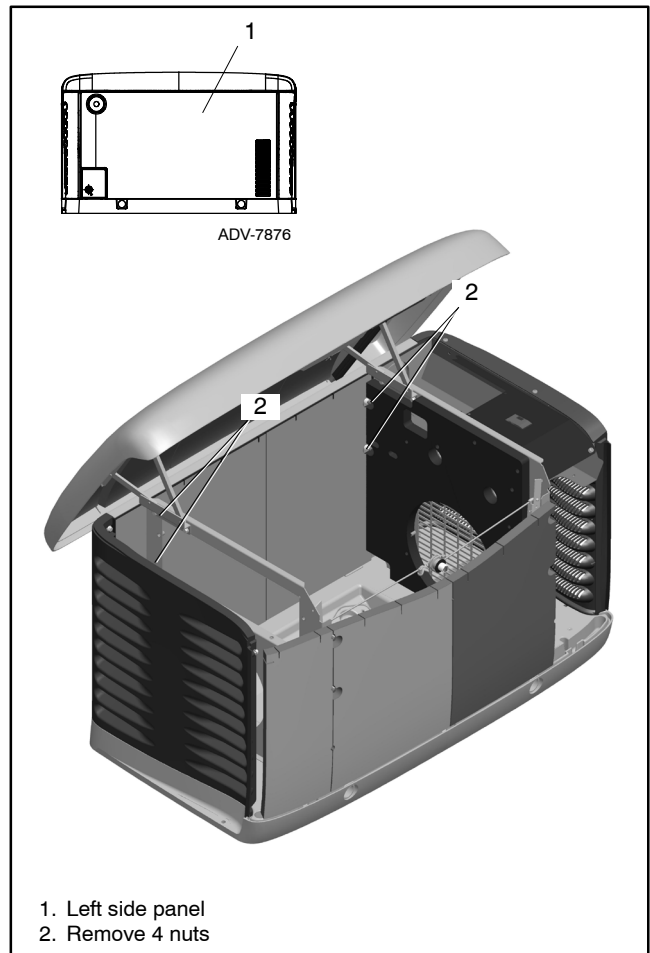

Figure 6-9 Left Side Panel
16. From the inside of the enclosure, remove four nuts securing the left side panel. See Figure 6-9.